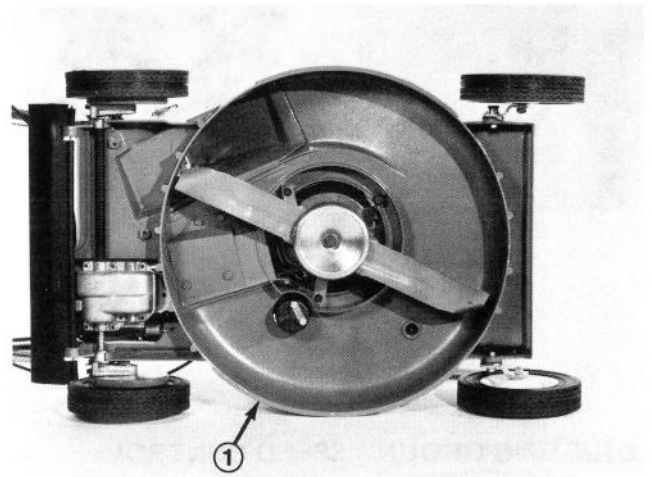

Figure 40
3. Tip mower on its left side (Fig. 40), which is the spark plug side. Avoid rotating the blade when mower is tipped because starting problems may result.